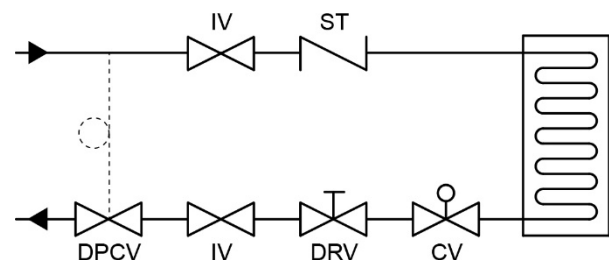

Figure 1: DPCV + DRV + CV in a typical coil layout
The trinity consisting of a Differential Pressure Control Valve (DPCV), a Double Regulating Valve (DRV) and a Control Valve (CV) in a coil layout typically looks as shown in *figure 1*.
The DPCV is designed to maintain a constant differential pressure between 2 specified points. DPCVs are normally used in strategic locations in the system in order to isolate specific system sections and thereby minimize the pressure fluctuations in the overall system. How the pressure is distributed “behind” the 2 specific points is not controlled by the DPCV. A DPCV can therefore only be used to maintain a constant ΔP over an area, which normally contains a set of thermal units as per *figure 1*.
In the configuration shown in *figure 1* the DPCV is used to control the differential pressure across the coil arrangement, the DRV is used to set the maximum flow and the CV is used to ensure modulation within 0-100% of the design flow.